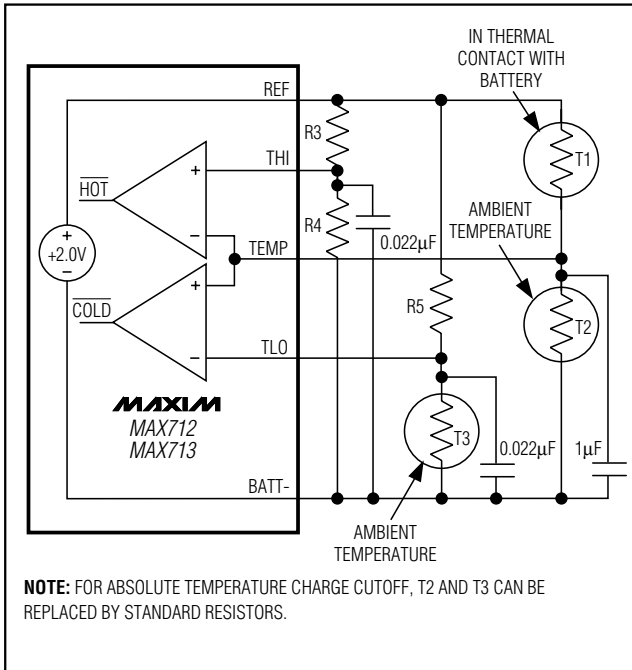
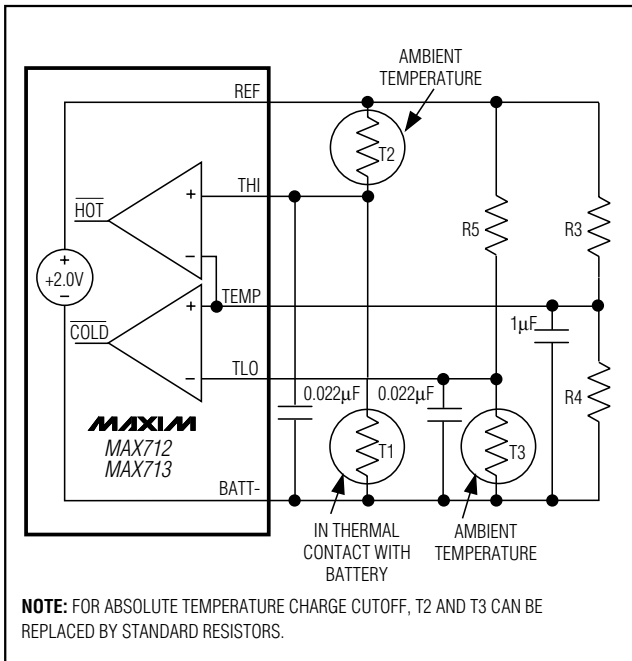
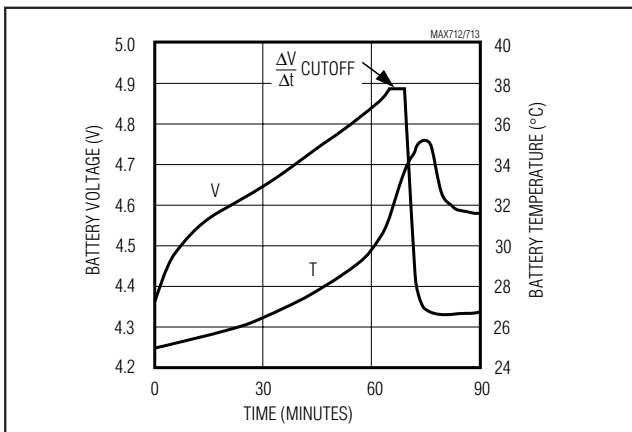

Figure 9a. Temperature Comparators
Figure 9b. Alternative Temperature Comparator Configuration
Figure 13. 3 NiMH Cells Charged with MAX712
terminal. In this case, use the configuration shown in Figure 9b. Thermistors T2 and T3 can be replaced by standard resistors if absolute temperature charge cutoff is acceptable. All resistance values in Figures 9a and 9b should be chosen in the 10kΩ to 500kΩ range.
Figures 13 and 14 show the results of charging 3 AA, 1000mAh, NiMH batteries from Gold Peak (part no. GP1000AAH, GP Batteries (619) 438-2202) at a 1A rate using the MAX712 and MAX713, respectively. The *Typical Operating Circuit* is used with Figure 9a's thermistor configuration.